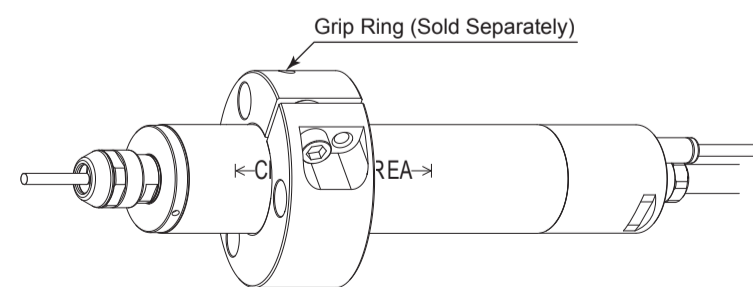

Fig. 14
- \* When installing the Motor Spindle, it is recommended to use a "GR - 30 Grip Ring (sold separately (Fig. 14))". If the GR - 30 Grip Ring cannot be used due to the restriction of dimension and space, install as shown in 2 below.